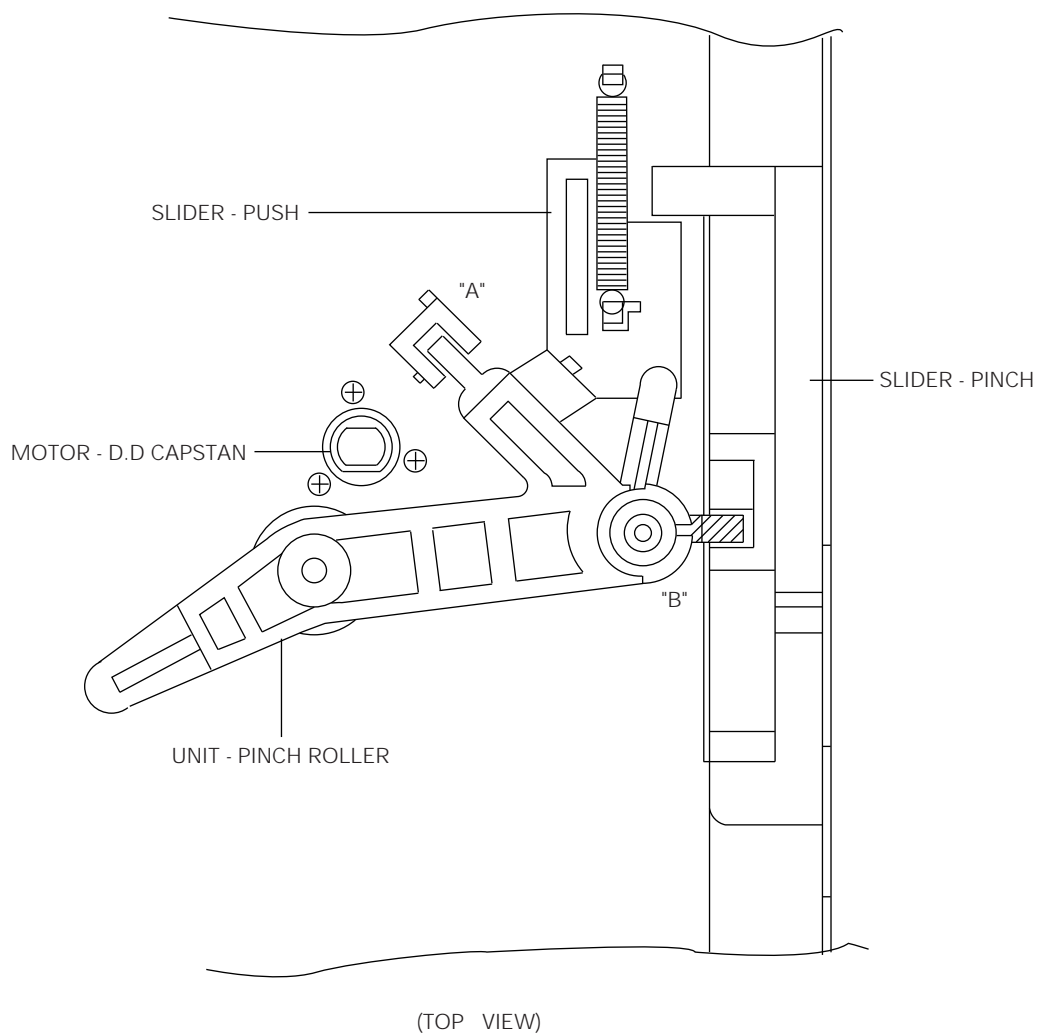

Fig. 1-32 Assembly of Unit Pinch Roller
1. Install the Pinch Roller Unit as shown in Fig. 1-32. (Refer to A, B)